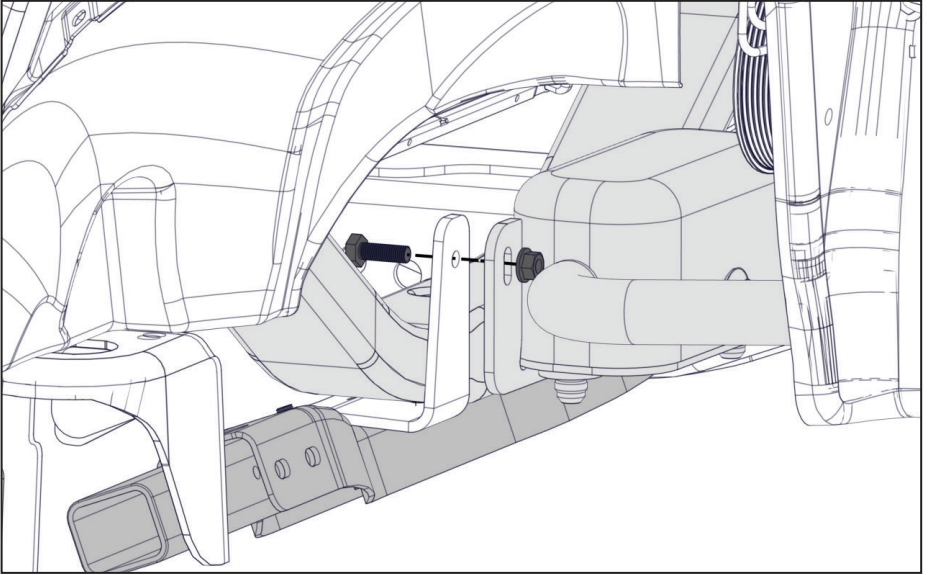

Figure 11 — Install cooler
- ☐ Using the supplied fasteners, mount the cooler to the cooler bracket (leave the fasteners finger tight to allow for adjustment later) (Figure 11).